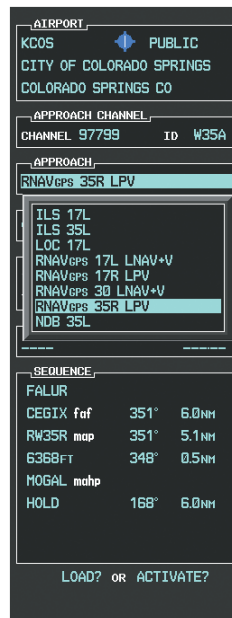

Figure 5-133 List of Available Approaches
c) Press the ENT Key. A list of available approaches for the destination airport is displayed as in Figure 5-133.
d) Turn either FMS Knob to select the LPV approach for 35R as shown in Figure 5-133.